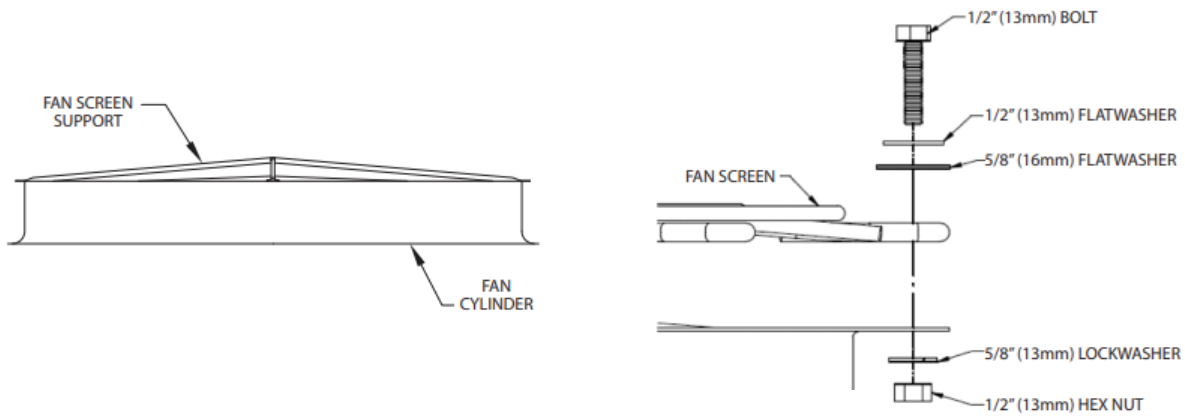

Figure 24 — Fan Screen Support & Fan Screen Installation
1. Set the fan screen support across the top of the fan cylinder as shown in Figure 24.
4. At each hole, attach the fan screen to the fan cylinder as shown in Figure 24. At the four points where the fan screen support meets the cylinder, bolt the support to the cylinder together with the fan screen.